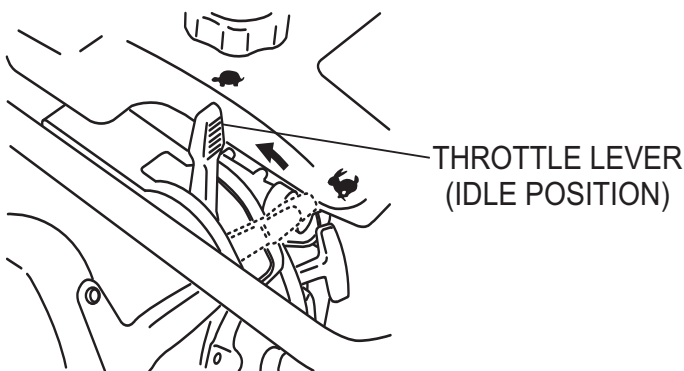
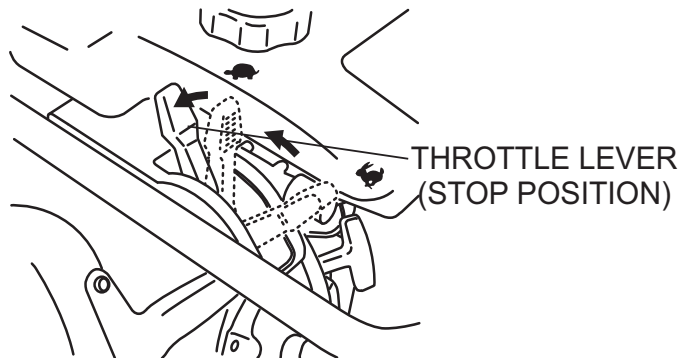

Figure 9. Throttle Lever (Idle Position)
Figure 10. Throttle Lever (Stop Position)
3. To stop the tamping action, move throttle lever quickly from **START** to **IDLE** position (Figure 9).
1. Move throttle lever quickly from the **START** to **IDLE** position (Figure 9) and run the engine for three minutes at low speed. After the engine **cools**, move the throttle lever to the **STOP** position (Figure 10). The engine will stop and the fuel cock is automatically closed.